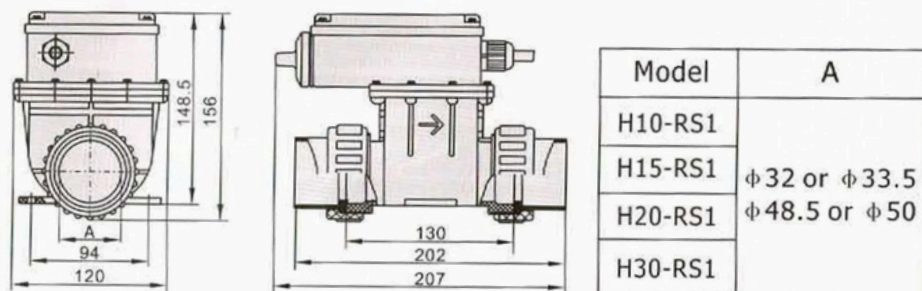

Fig.1
-2.1 The heater must be installed horizontally. Dimensions and position of the heater for supporting and fixing refer to Fig.1.